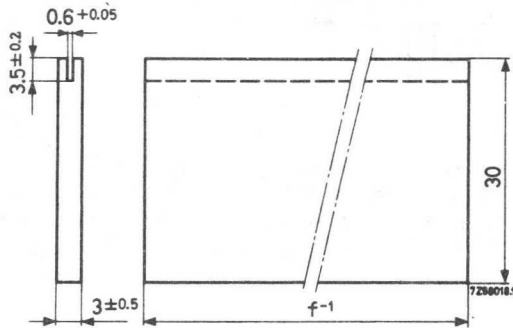

Fig.8
5. Press the combs firm with the aid of the tool shown in Fig.8.
9. Remove the combs with the aid of the tool shown in Fig.8, by bending this tool from the vertical position to the outside of the connector.